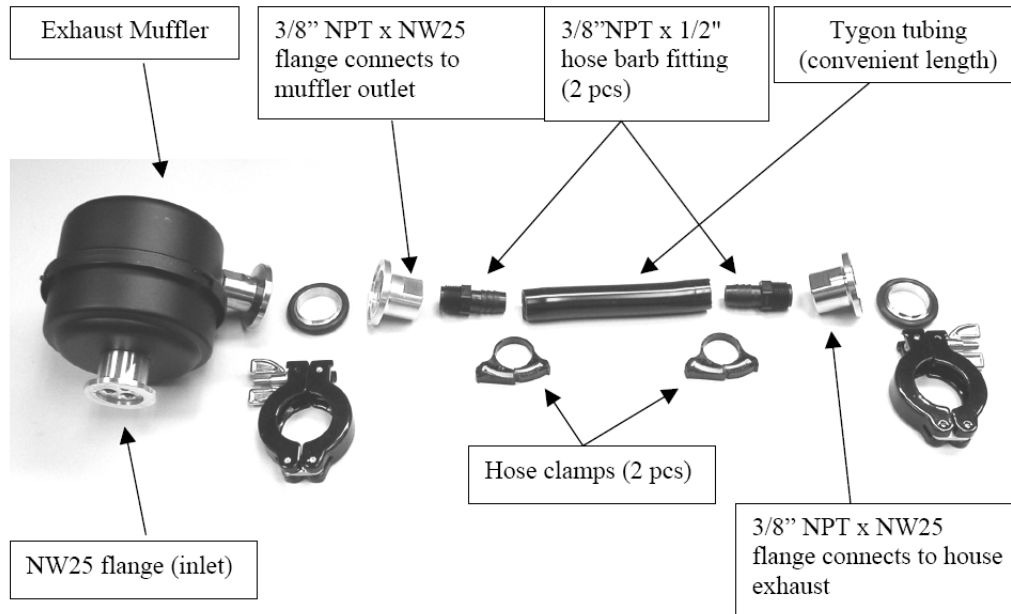

Figure 1-9 Exhaust Muffler Kit: Exploded View - Tubing Between Muffler and House Exhaust
1. Clamp the inlet of the muffler (NW25) to the NW25 flange on the outlet of 1/2" Tygon tubing downstream from resonator. The inlet of the muffler has three small holes in the flange (Figure 1-9).